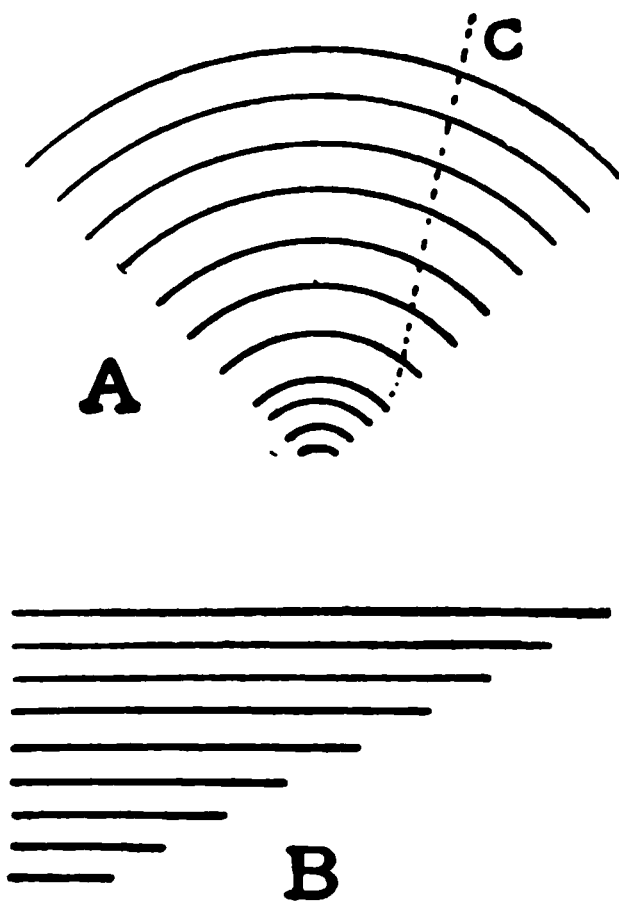

FIG. 80.
centric circles (see fig. 80, A). The portion of the curves cut off by the dotted line C will make a second set with flatter curves. Gouges are used for tooling curved lines.
81). A set of one-line pallets is shown at fig. 80, B.